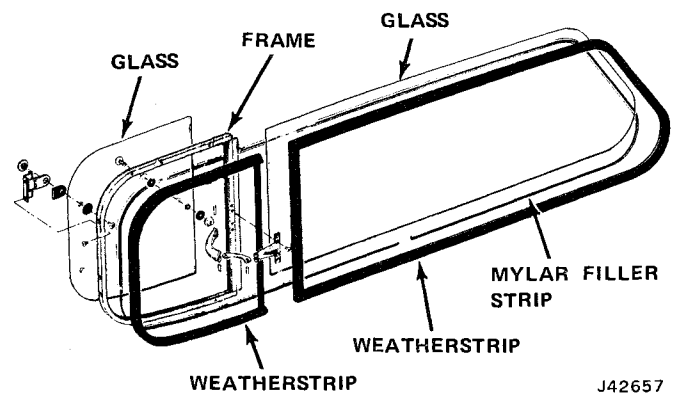

Fig. 3K-1 Rear Quarter Window—Cherokee
- (1) Remove mylar insert from weatherstrip.
- (2) Pull weatherstrip back and remove window frame-to-body screws from inside vehicle (fig. 3K-1).
- (1) Remove handle-to-frame attaching screws (fig. 3K-1).
- (2) Remove glass hinge screws and washers.
- (3) Remove glass.